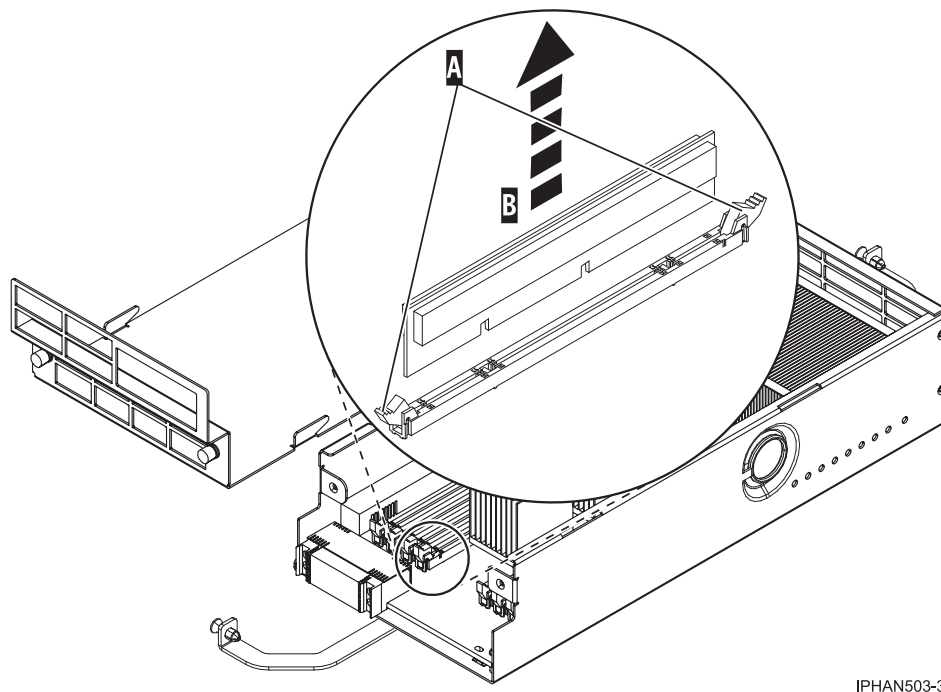

Figure 10. Removing a memory module
6. As shown in Figure 10, unlock the memory module by pushing the connector tabs **(A)** out. The lever action of the tabs forces the memory module **(B)** out of the connector.